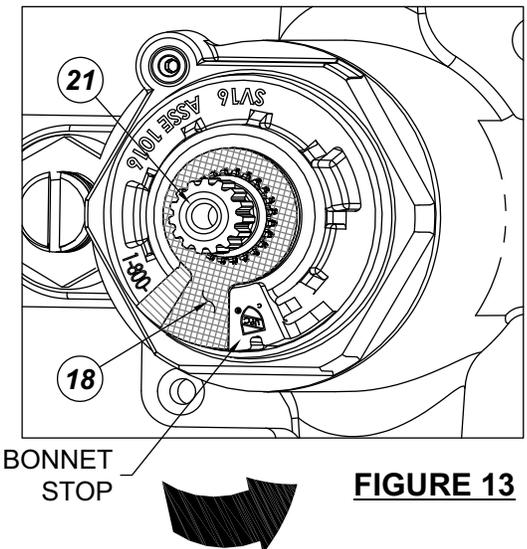

FIGURE 13
2. Place the second temperature stop washer **18** on the valve stem **21** keyed on the clockwise side as close to the valve bonnet stop as possible. Rotate counterclockwise until it is fully against bonnet stop (full hot). See **Figure 13**.